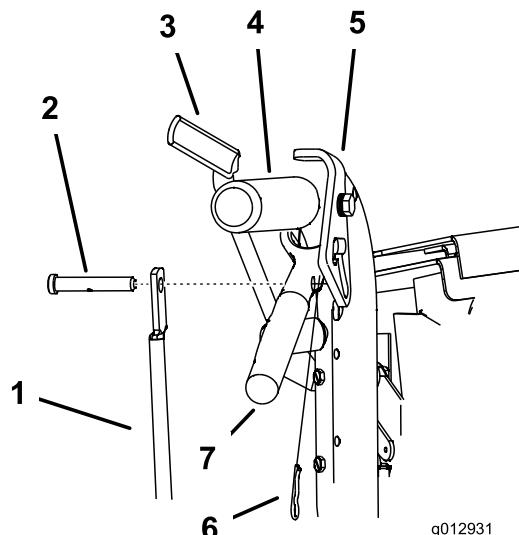

Figure 14
1. Remove the hairpin cotter pins and clevis pins from the drive levers and neutral locks (Figure 14).
5. Adjust the control rod length by rotating the control rod in the rod fitting (Figure 14).
6. Install a hairpin cotter between the drive levers and neutral locks and into the clevis pins (Figure 14).